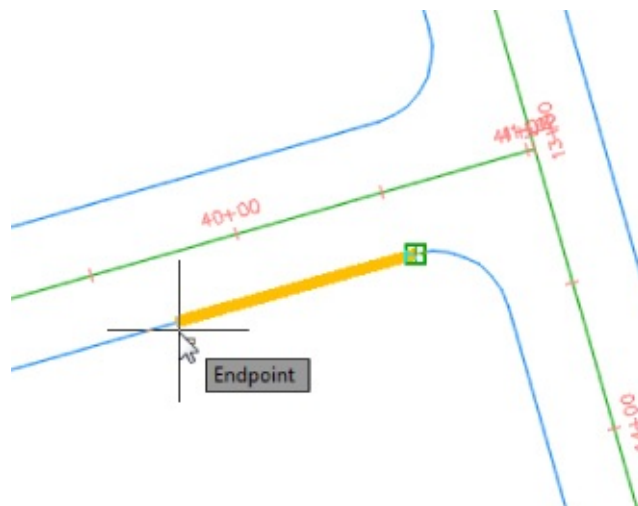

Figure 5.27 Pick the point of curvature along the ROW parcel segment highlighted by the Osnap marker.
10. At the Select start point on frontage: prompt, use your Endpoint Osnap to pick the point of curvature along the ROW parcel segment for Property : 1 (see Figure 5.27). The point will show with the Osnap marker over it.